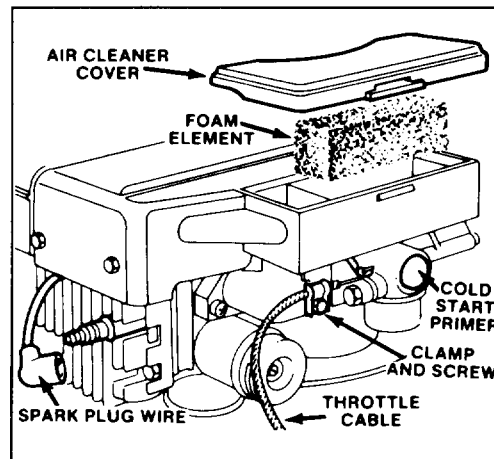

Figure 11
2. Push spark plug wire onto spark plug (Fig. 11).
Before starting engine when temperature is below 50°F (10°C), push cold start primer 5 times (Fig. 11), pausing 2 seconds between each push.
1. Stop engine and pull wire off spark plug (Fig. 11).
2. Remove air cleaner cover and clean thoroughly (Fig. 11).
3. Inspect air cleaner element (Fig. 11). If necessary, remove and clean.
2. Clean around spark plug and remove plug from cylinder head (Fig. 11).
1. Stop engine and wait for engine to cool. Pull wire off spark plug (Fig. 11).
3. Loosen cable clamp screw until throttle cable is free to slide (Fig. 11).
4. Move carburetor control arm to the left until it contacts grounding bracket (Fig. 11). Pull throttle cable slightly to remove any slack, and tighten the cable clamp screw to lock the adjustment in place.